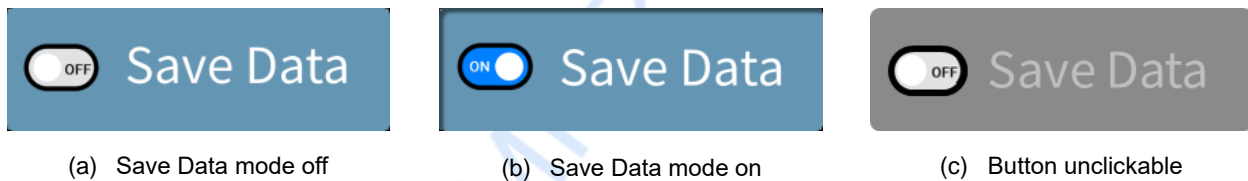

Figure 4-13 Three states of the Save Data button
Step 3: By default, the Save Data working mode is off. If users want to turn on the Save Data mode, click the **Save Data** button when the button is clickable (as shown in Figure 4-13(a)); and to turn off the mode, click the **Save Data** button again;